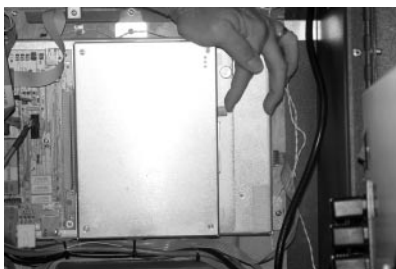

Figure 3-15. Push the eject button to release the modem for the PCMCIA slot
4. Refer to Figure 3-15. Push the PCMCIA card eject button to eject the modem from the slot.